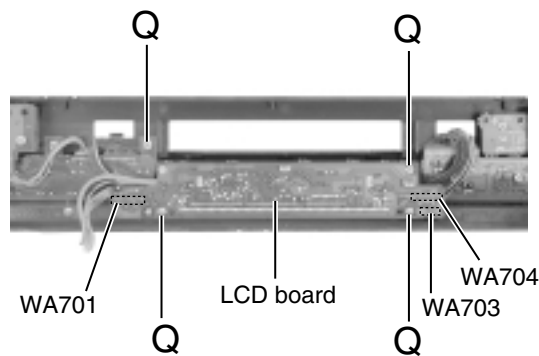

Fig.29
**■Removing the LCD board (See Fig.29)**